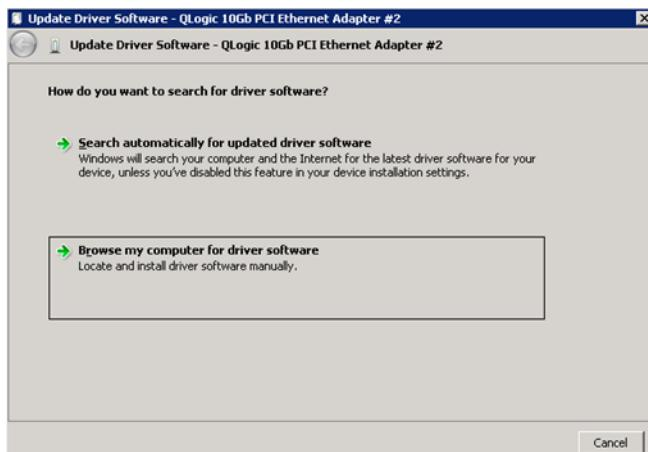

Figure 3-22. Starting the Update Driver Software Wizard
7. The Update Driver Software Wizard starts. Click **Browse my computer for driver software** (Figure 3-22).